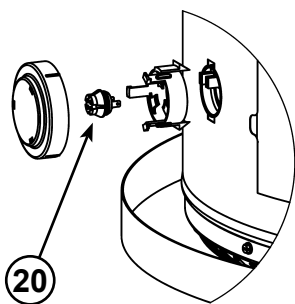

Figure 59.
- 20 Flammable Vapor Sensor (under cover) (see Figure 5) (see also **Figure 59**)